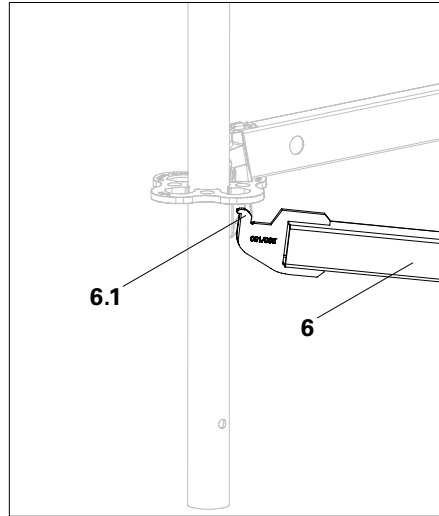

Fig. A8.01
1. Attach the nose (6.1) of the horizontal brace (6) from below into the rosette of the first frame. (Fig. A8.01)